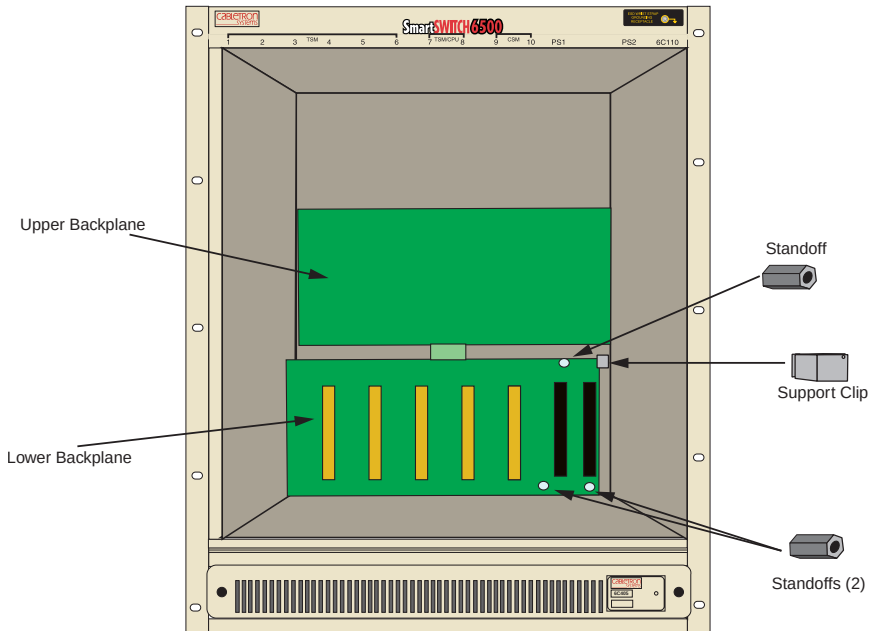

Figure 3-5 Removing the Standoffs and Support Clip
6. Using a .25-inch hex nut driver, remove the three standoffs that are attached to the lower backplane. Refer to Figure 3-5.
8. Locate the rectangular metal clip that is connected to the chassis card cage. It is located directly to the right of lower backplane. Refer to Figure 3-5.